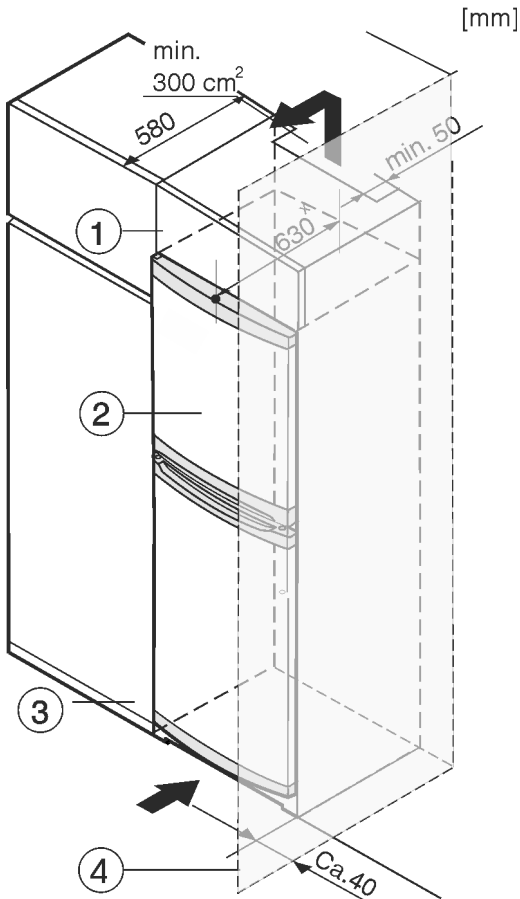

Fig. 8
The appliance can be built into kitchen units. A top cupboard Fig. 8 (2) can be added above the appliance Fig. 8 (1) up to the height of the fitted kitchen units.
When fitting kitchen cupboards around the appliance (max. depth 580 mm), you can install the appliance directly next to the kitchen cupboard Fig. 8 (3). The appliance protrudes 34 mm \* to the side and 50 mm \* in the centre of the appliance in relation to the kitchen cupboard front.
If the appliance is set up with the hinges next to a wall Fig. 8 (4), the distance between the appliance and the wall must be at least 40 mm. This is how far the handle protrudes when the door is open.